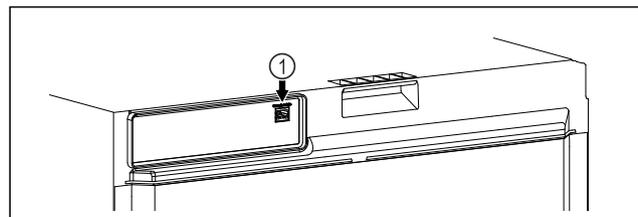

Fig. 106
- SmartModule Fig. 106 (1) has been inserted.